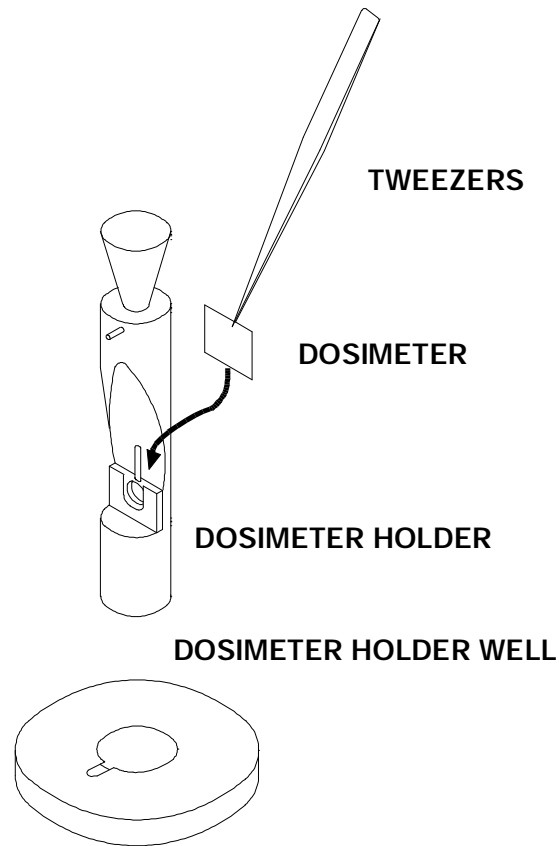

Figure 4 Inserting Dosimeter into Dosimeter Holder
3. Insert the dosimeter into the holder using a pair of tweezers. See **Figure 4 Inserting Dosimeter into Dosimeter Holder**.